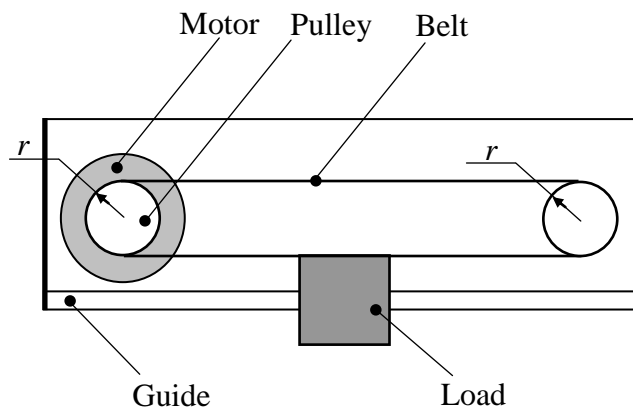

Fig. 1
1. a. Fig. 1 shows the schematic of a servo drive system in which the payload mass m , supported by the guide, is coupled to the motor with inertia J_m via a pulley and belt transmission. Assuming that friction and inertia of the pulley and belt are negligible, determine the optimal radius of the pulley r that minimises the motor torque. (8)
- b. The motor in Fig. 1 with inertia of 0.002 kgm^2 is required to move the purely inertial load of 0.2 kg through a distance of 0.4 m in 0.1 s using a trapezoidal velocity profile and the optimal transmission arrangement. Determine the peak torque and speed rating of the motor. Would the motor overheat if such a movement were executed repeatedly given that the rms torque rating of the motor is 6.0 Nm ? (8)
- c. If the same movement is to be performed using a triangular velocity profile, calculate the rms torque and maximum output power of the motor. (4)